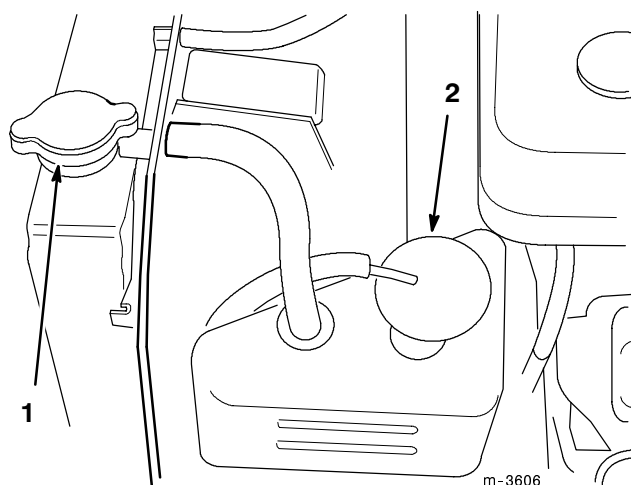

Figure 30
2. Remove the radiator cap and reserve tank cap (Fig. 30).